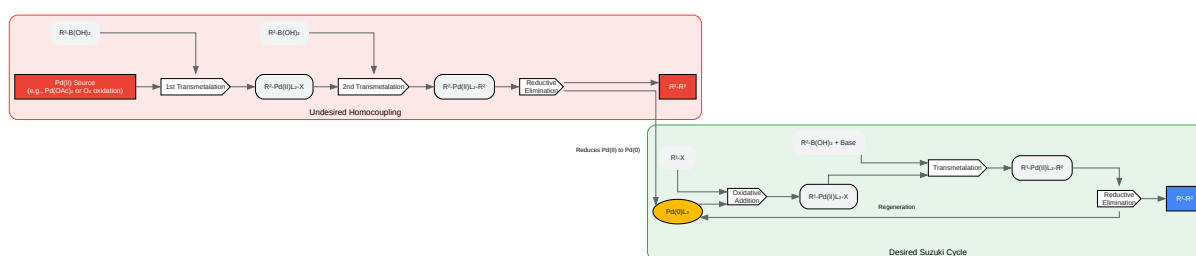

Fig. 1: Suzuki Catalytic Cycle vs. Homocoupling Pathway
Caption: Fig. 1: The desired Suzuki catalytic cycle (green) regenerates Pd(0), while the homocoupling pathway (red) is initiated by Pd(II) species.
A: The most common culprit is the presence of oxygen.^[4] The active Pd(0) catalyst is sensitive and can be readily oxidized to Pd(II) by dissolved oxygen. These Pd(II) species can then enter the homocoupling catalytic cycle shown in Fig. 1.^[1] Another major cause is the use of a Pd(II) precatalyst without ensuring its rapid and complete reduction to Pd(0) at the start of the reaction.